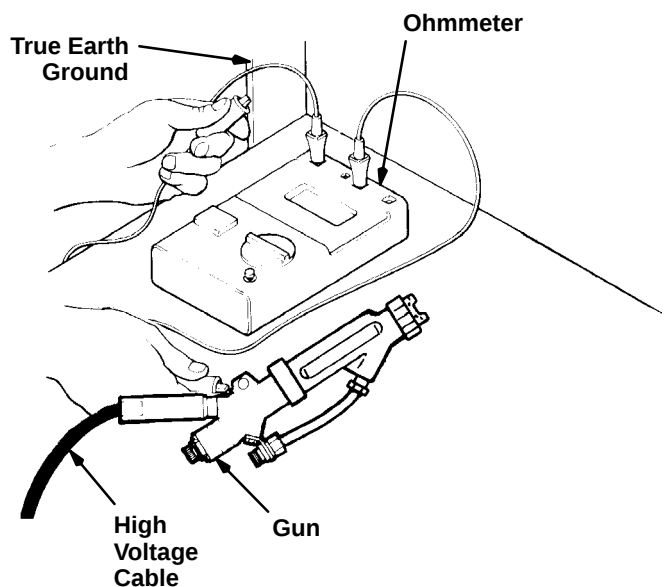

Fig 1
Check the Electrical Grounding (See Fig 1)
3. Have a qualified electrician check the electrical grounding continuity of the spray gun. Use an ohmmeter to measure resistance between the actuator of the gun and a true earth ground. See Fig 1.